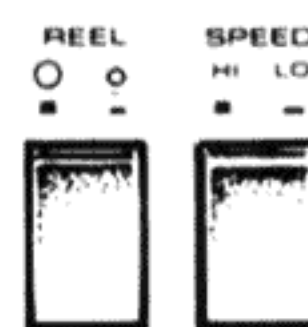

Fig. 41
2. Set the REEL SIZE switch and TAPE SPEED selector in accordance with the reel size used and the desired tape speed (Fig. 41).